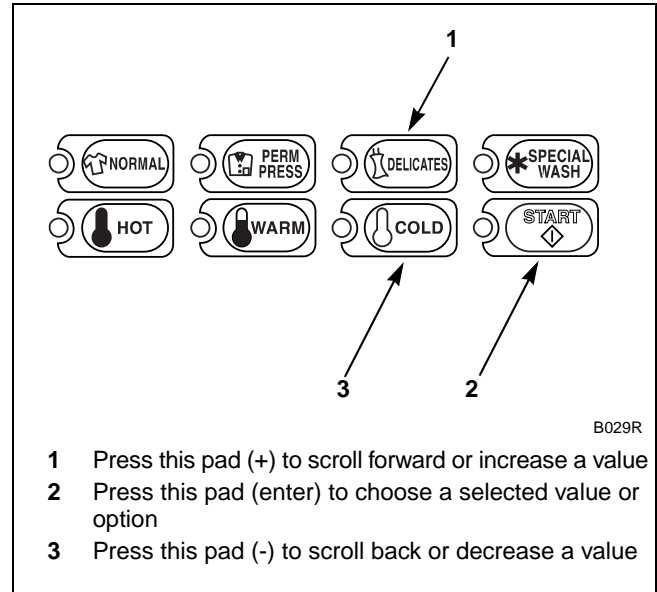

Figure 122
5. Press the DELICATES (+) or the COLD (-) keypad to increase or decrease the year until correct. Refer to *Figure 122*.